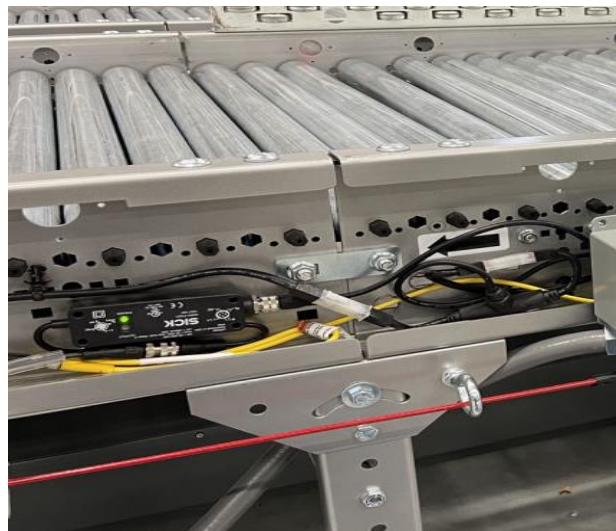

Figure 21: Photoeye Kit
24 VDC Photoeye (PE) Kits – P/N: 10803-060961 (See Figure 21 below)